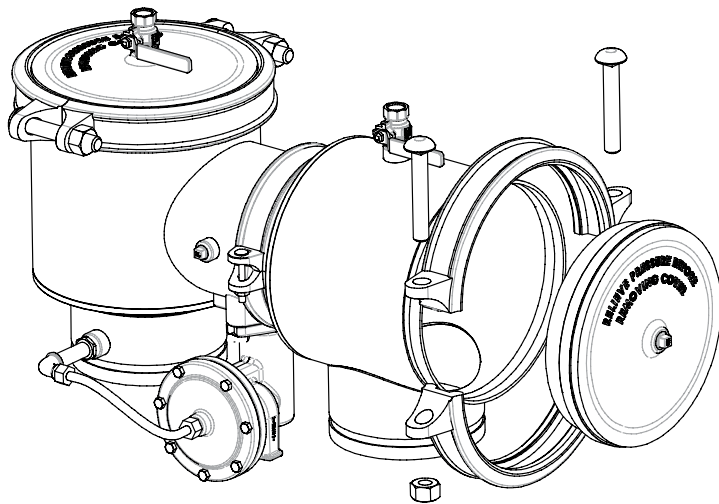
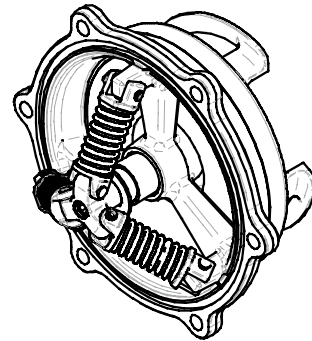

Figure 7
Figure 8
2. Lift off the cover. (See Figure 7)
3. Remove the six (6) reusable locknuts for 8" valves/ eight (8) nuts for 10" & 12" valves with a 3/4" socket and ratchet.
4. Slide the entire check module off the body studs and remove from body (See Figure 8).